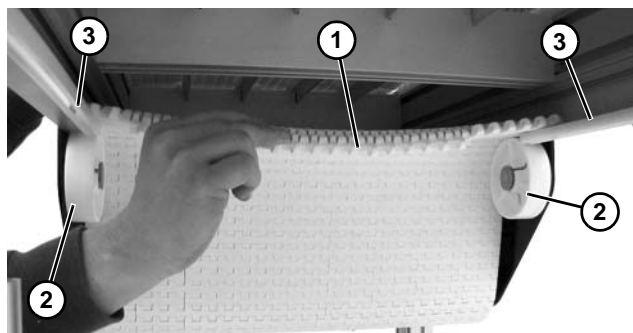

Figure 20
8. Weighted Take-Up: Continue wrapping belt (**Figure 20, item 1**) over top of pucks (**Figure 20, item 2**) and on top of J-Leg wear strips (**Figure 20, item 3**).